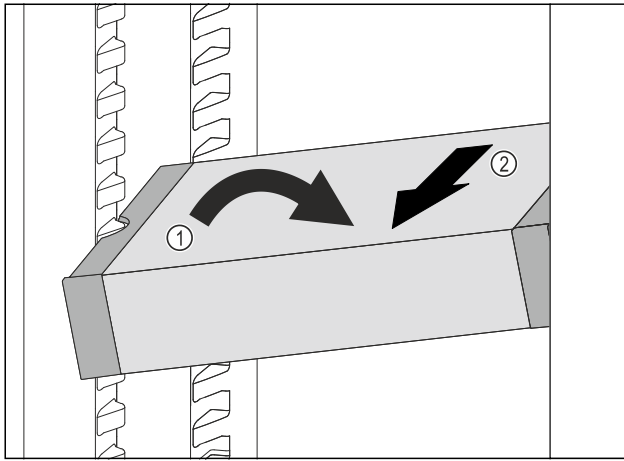

Fig. 137
- Set VarioSafe in refrigerator compartment at an angle. Fig. 137 (1)
- Take VarioSafe out to the front. Fig. 137 (2)